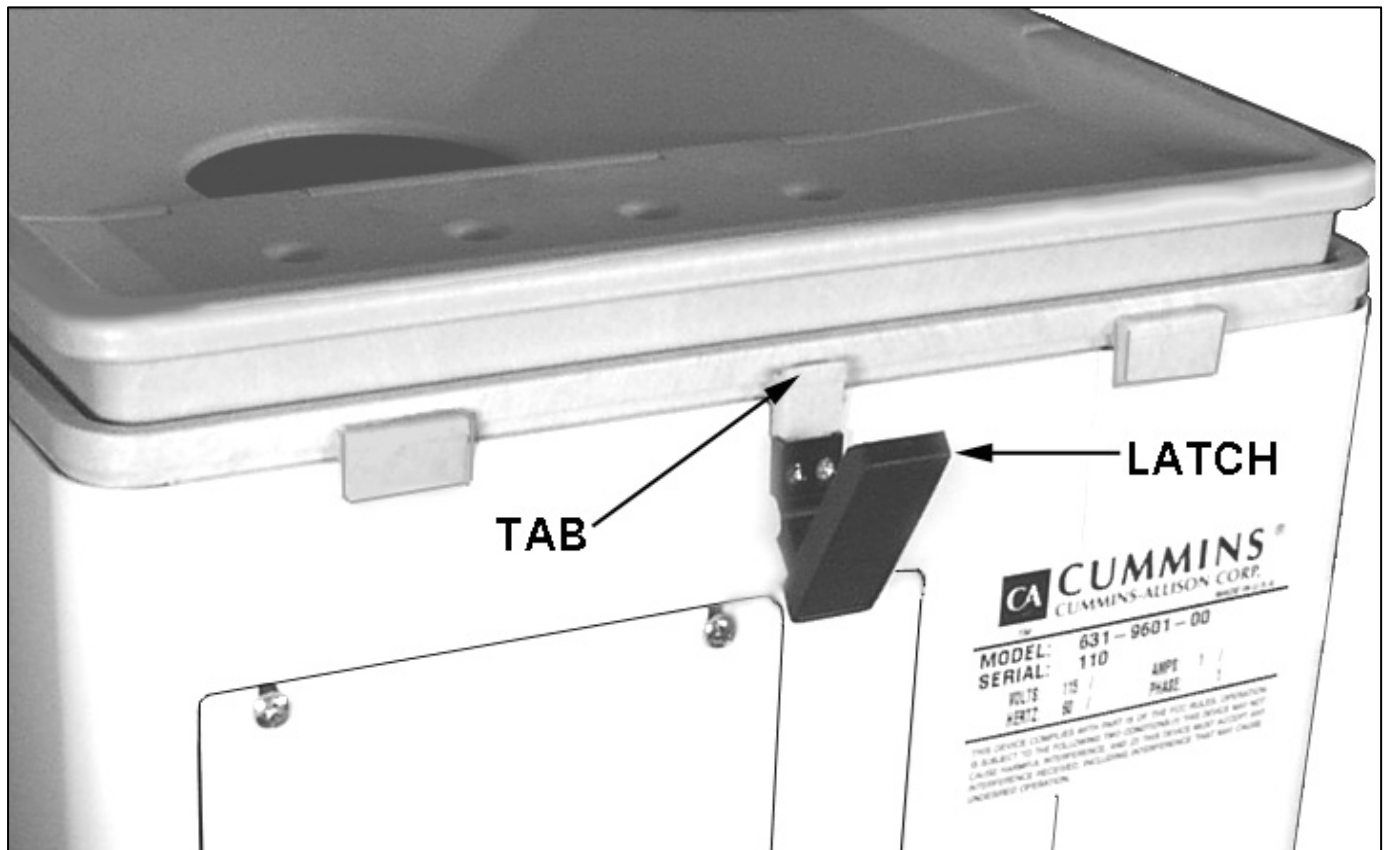

Figure1 – Lift Tray Assembly and Installation
### Lift tray assembly removal – FIGURE 1
1. Pull back and up on the bottom of the latch (Figure 1) until it pops loose.
### Lift tray assembly installation – FIGURE 1
2. Hook the top of the latch over the tab on the tray base (Figure 1) and press down and in on the bottom of the latch until it snaps in place.